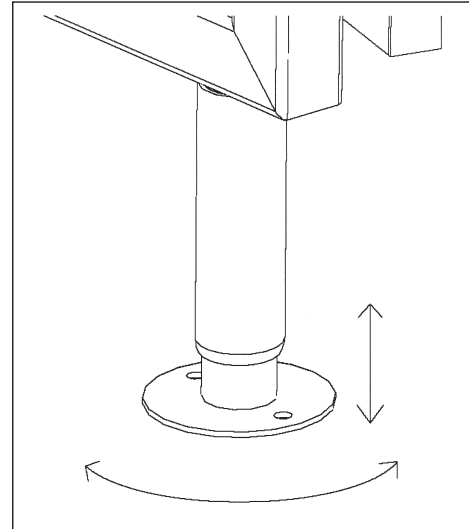

Figure 1 Leg Adjustment
| Illustration (Leg Adjustment), Figure 1..... | 2 |
4. Place cabinet on level floor. (For cabinets with legs, adjust the legs of the cabinet to ensure proper fit of rack into cabinet. See Fig. 1)